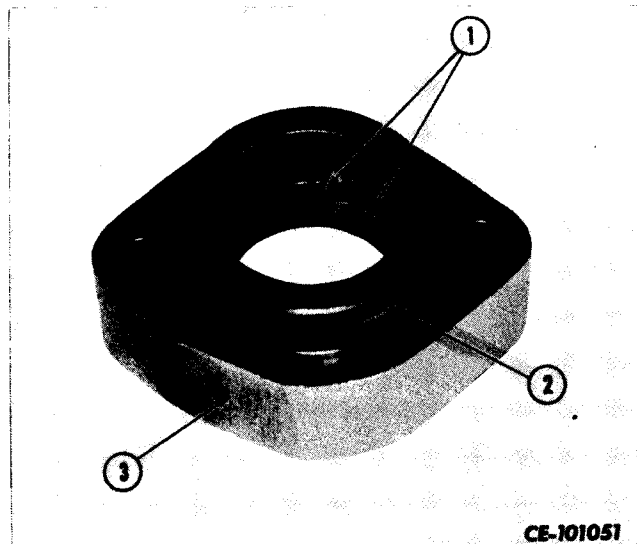

Figure 4-53
Remove and discard "O" rings (2, Fig. 4-53) and seals (1) from end caps (3).
Install new seals (1, Fig. 4-53) and "O" rings (2) on all end caps (3). Lubricate "O" rings and lips of seals with clean transmission fluid.